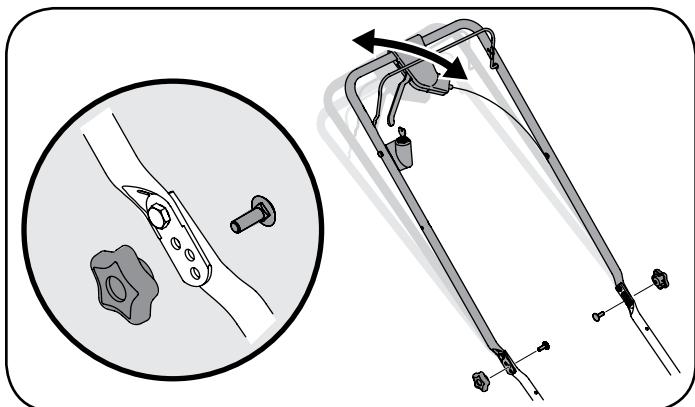

Figure 14
1. Handles with Knobs and Carage Bolts. See Figure 14 -
- b. Position the handle in one of the three positions that is most comfortable. See Figure 14 inset.